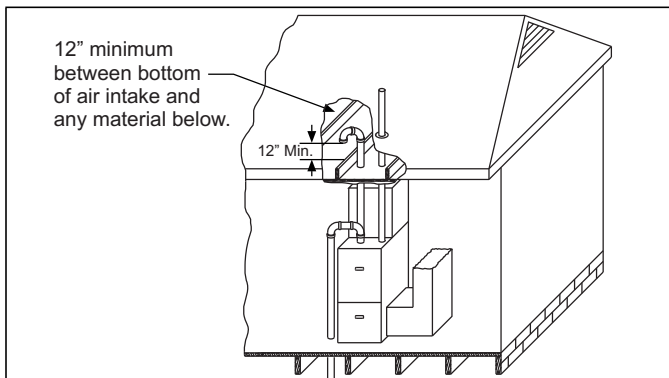

FIGURE 32: Attic and Crawl Space Combustion Air Termination
3. **VENTILATED COMBUSTION AIR:** Combustion air is supplied through a PVC or ABS pipe that is connected to the PVC coupling attached to the burner box and is terminated in a ventilated attic or crawl space. The combustion air and the vent pipes are not terminated in the same atmospheric zone. Refer to Figure 32 for attic and crawl space termination. Only the combustion air intake may terminate in the attic. The vent must terminate outside.
Refer to Figure 32 for required attic termination for the combustion air intake pipe. For attic termination, use two 90° elbows with the open end in a downward position. Be sure to maintain 12" (30.5 cm) clearance above any insulation, flooring or other material.